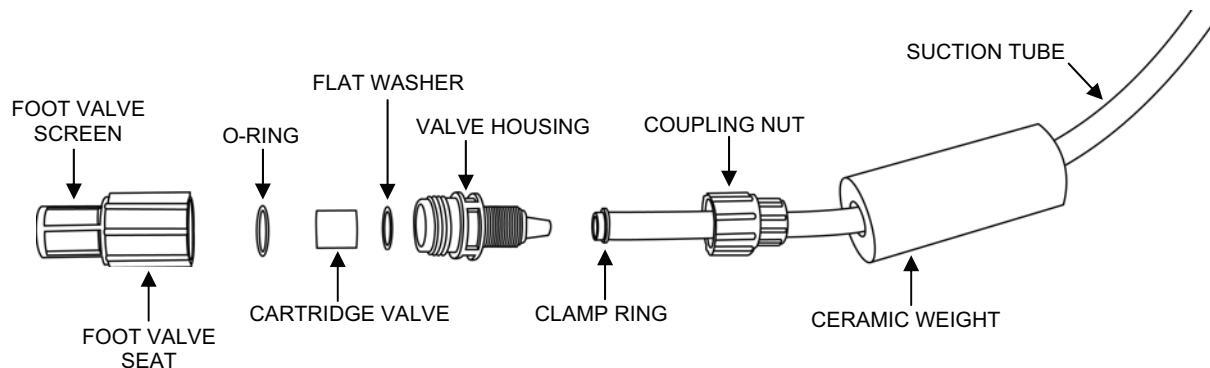

Figure 7. Foot Valve Assembly Replacement.
3. Install the new foot valve assembly as follows (see Figure 7):